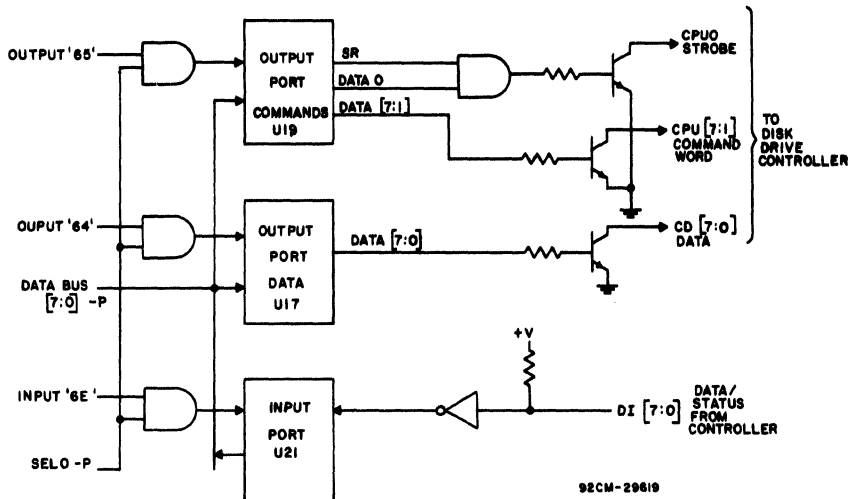

Fig. 1 - RCA COSMAC Microboard Parallel I/O Interface Module - Block Diagram of Disk Interface Logic.
The CDP18S646 communicates with a floppy disk drive system and with a printer as shown in Figs. 1 and 2.
The block diagram for the disk logic is given in Fig. 1. The first output port, used for commands to the drive units, is written by a 65 output instruction under Group 1 controls (SEL0-P). Seven command bits are sent to the drive unit through the grounded-emitter open-collector transistor driver. The least significant bit is gated by the service request (SR) generated by the output port to provide a clock strobe.